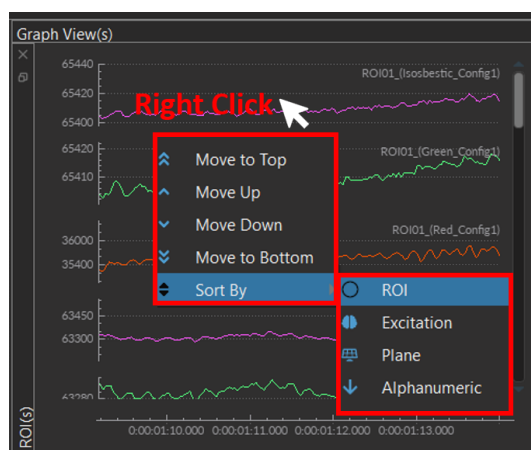

Figure 1.21: Signal Sorting
2. **Box 2:** This box displays all de-interleaved photometry signals, including isosbestic, green, and red signals from all ROIs. By default, signals are sorted by ROI number. To change the sorting order, right-click on one of the signals and select from the available sorting options (Fig 1.21).